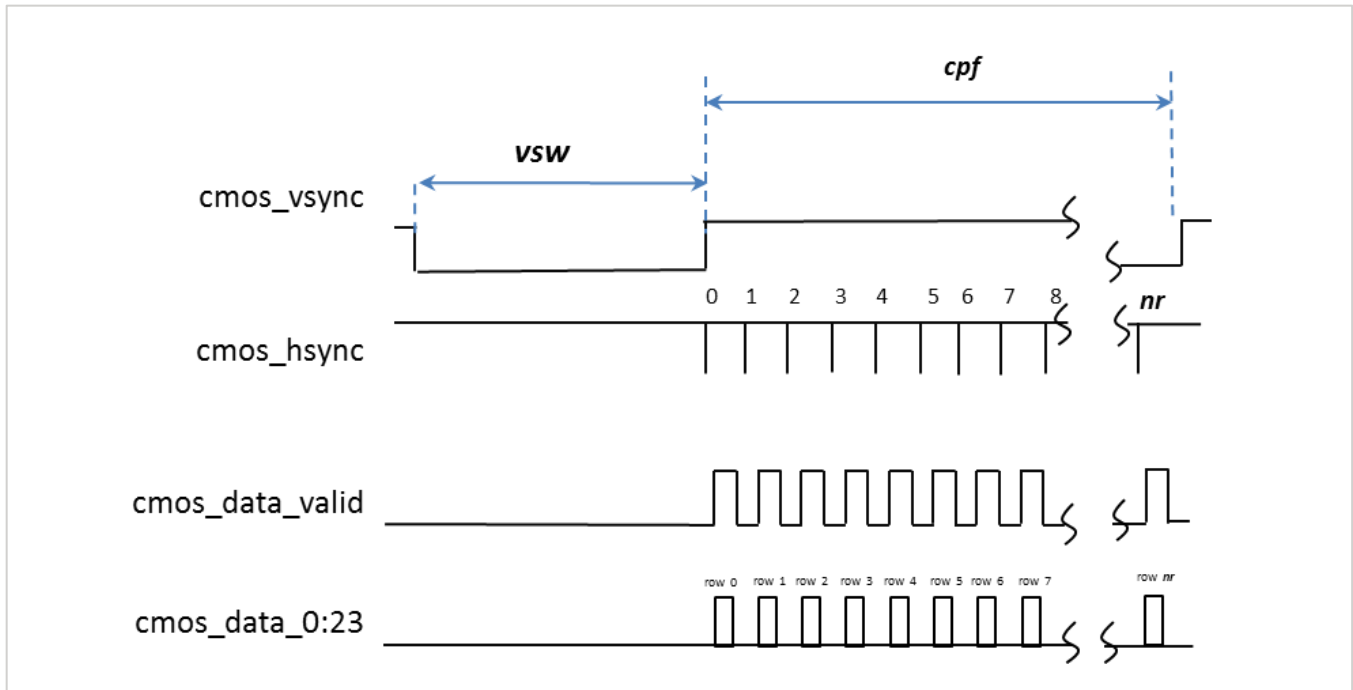

FIGURE 37: FRAME TIMING OF THE CMOS OUTPUT CHANNEL
2. Each frame period consists of three distinct sections, as illustrated in Figure 37: